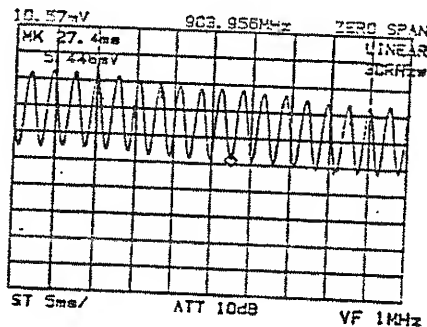

Figure 5-8 Reading the Emin
- ⑮ Set the marker to the minimum value of the waveform and read the level Emin (Figure 5-8).